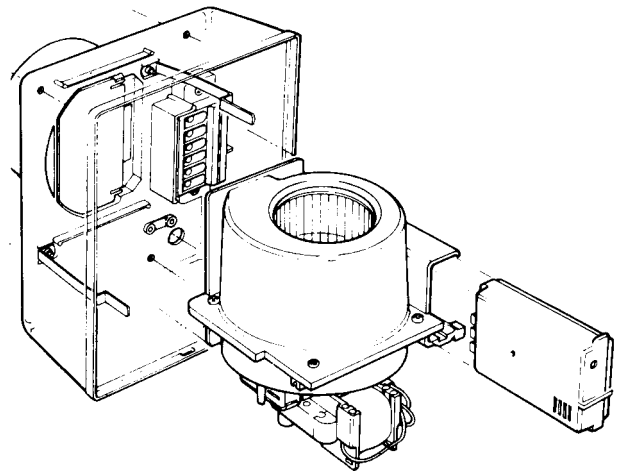

Fig. 4. Electronic control module and Fan/Motor assembly
2. Remove the plug-in electronic control module. (fig.4)